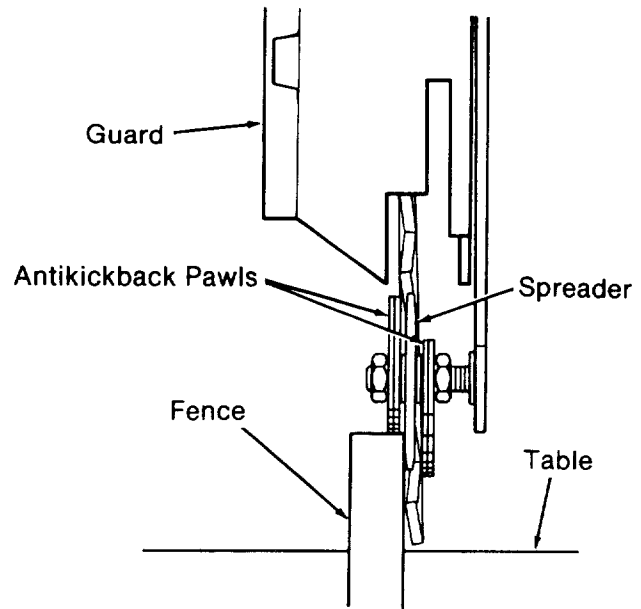

Fig. 126
11. Lower the *spreader* and *antikickback pawls* until the *spreader* is against the *fence*, and the *pawls* on one side of the *spreader* are on top of the *fence*. (Figure 126)